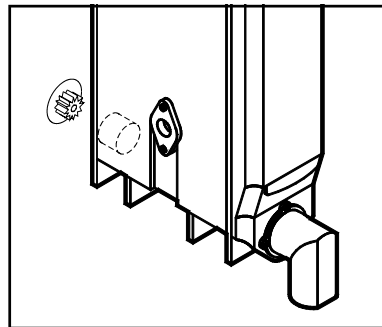

Fig. 13
4. Fill the dry sanitized ingredient bins and install the bins in the machine (Fig. 13). Slide the bin on the deck while lining up the auger with the dispenser motor drive gear. If the locator pin (Fig. 2a) on the bottom (front) of the bin cannot seat in the locator hole, remove the bin and rotate the auger drive slightly. Then, try to install the bin again. Repeat as necessary until the bin seats properly in the machine - **DO NOT FORCE BIN INTO PLACE.**